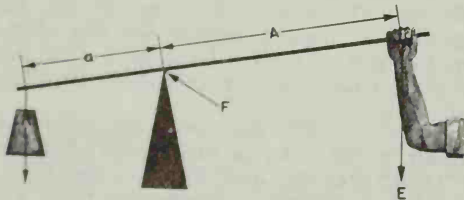
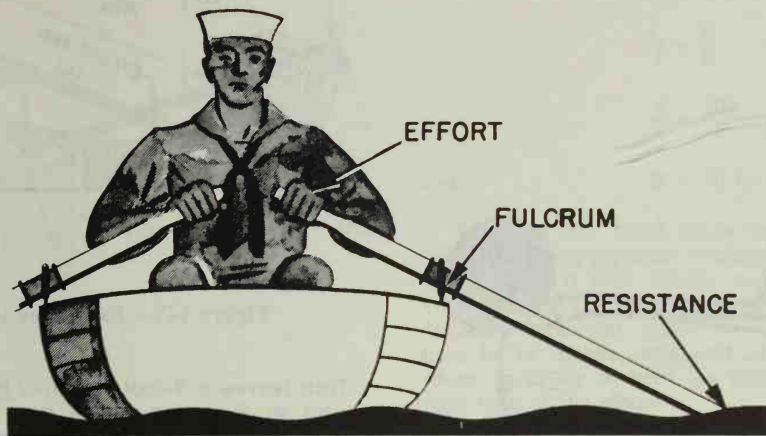

Figure 1-1.—A simple lever.
Figure 1-3.—Oars are levers.
There are three basic parts which you will find in all levers; namely, the FULCRUM (F), a force or EFFORT (E), and a RESISTANCE (R). Look at the lever in figure 1-1. You see the pivotal point F (fulcrum); the EFFORT (E) which you apply at a distance A from the fulcrum; and a resistance (R) which acts at a distance a from the fulcrum. Distances A and a are the lever arms.
The amount of weight and the distance from the fulcrum can be varied to suit the need. Another good example is the oars in a rowboat. Notice that the sailor in figure 1-3 applies his effort on the handles of the oars. The oarlock acts as the fulcrum, and the water acts as the resistance to be overcome. In this case, as in figure 1-1, the force is applied on one side of the fulcrum and the resistance to be overcome is applied to the opposite side, hence this is a first-class lever. Crowbars, shears, and pliers are common examples of this class of lever.